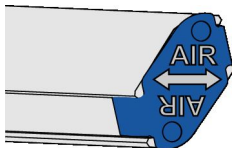

Fig. 9: Air direction arrow end cap
4. ▶ Insert the air guide profile into the duct smoke detector up to the red insertion mark. Observe the direction of airflow on the end cap of the air guide profile Fig. 9.